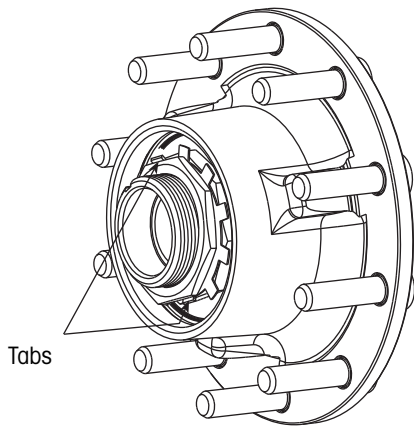

Figure 17. Bending opposing lockwasher tabs over the outer nut
12. Bend two lockwasher tabs over opposing flats of the outer nut (figure 17).